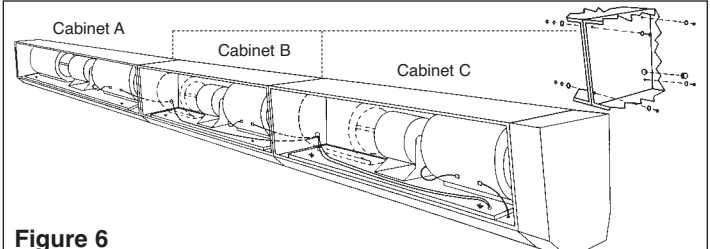

Figure 6
For 3 Cabinet Units: 108", 120", 132" and 144" See Figure 6
1. Determine mounting location of center cabinet (See Figure 6).
8. Install motor/blower assembly (A) in Cabinet A. Pass pressure switch hose through proper hole on blower base. Attach hose to right blower. Secure two wing nuts on blower base. Reconnect motor (A) electric cord plug assembly.
9. Install motor/blower assembly (B) in Cabinet B. Pass pressure switch hose through proper hole on blower base. Attach hose to right blower. Secure two wing nuts on blower base. Reconnect motor (B) electric cord plug assembly.
10. Install motor/blower assembly (C) in Cabinet C. Pass pressure switch hose through proper hole on blower base. Attach hose to right blower. Secure two wing nuts on blower base. Reconnect motor (C) electric cord plug assembly.